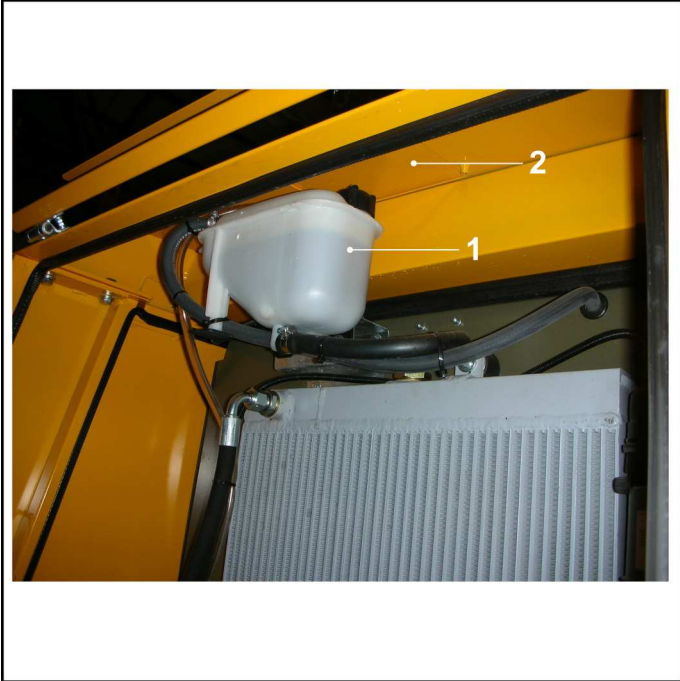

FIG. 30
- Check the level of the liquid inside the expansion vessel (FIG. 30-REF. 1) above the heat exchanger. To top up the liquid unscrew the cover (FIG. 30-REF. 2) on the machine casing above the tank.